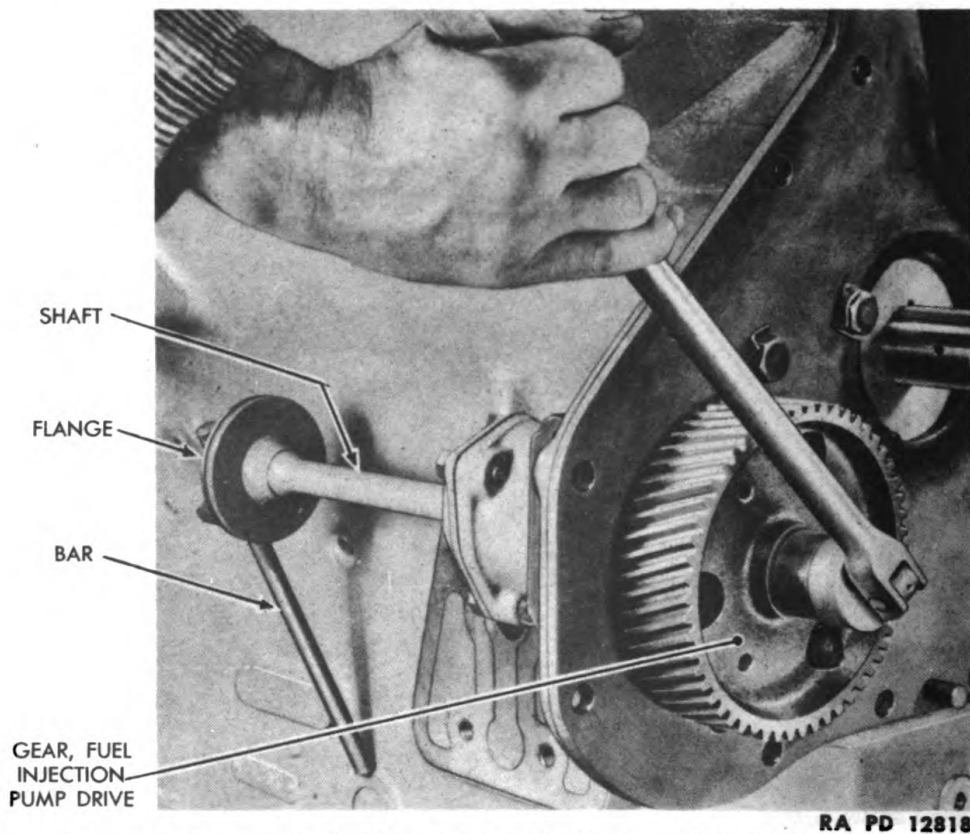

Figure 52—Fuel Injection Pump Shaft Gear Nut Removal
(2) REMOVE FUEL INJECTION PUMP DRIVE SHAFT GEAR (fig. 52).